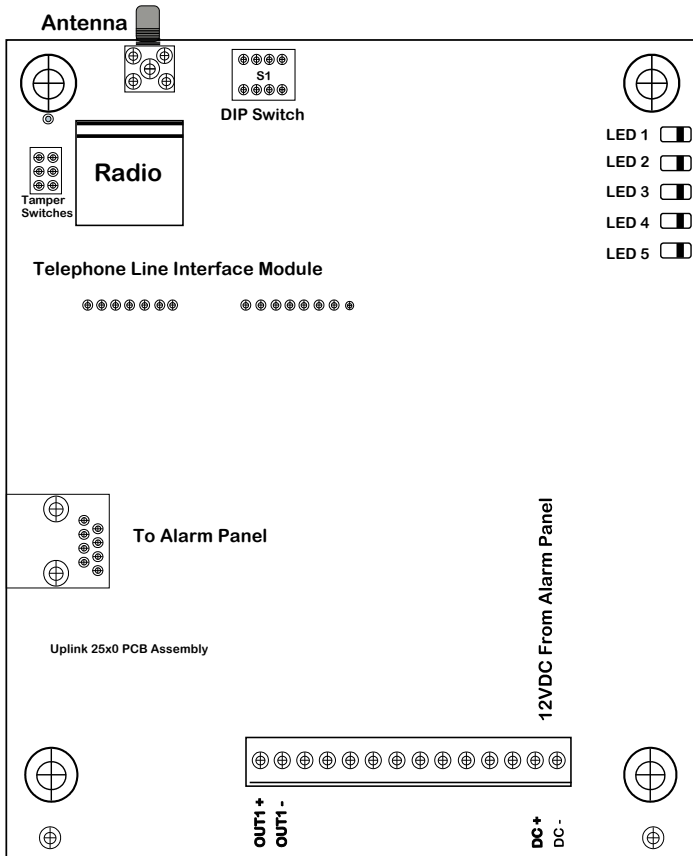

FIGURE 1: Model 2530 PC Board Details
3. Go to the red, 4-position Dipswitch as shown in Figure 1 and set the dipswitch as appropriate for this installation. (See Section 7B.)